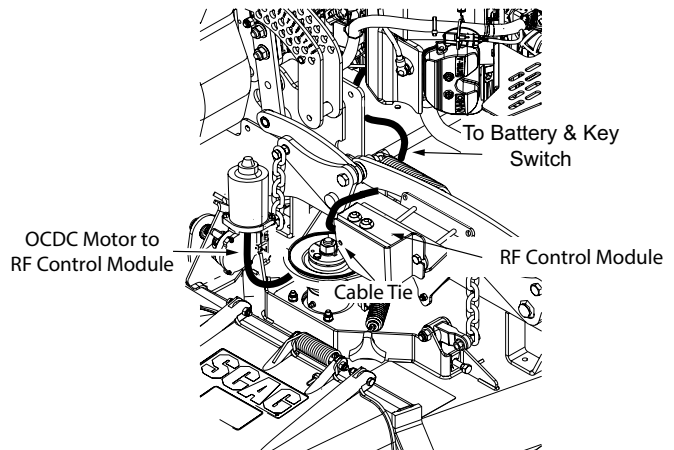

Figure 3-33. E-OCDC Wire Harness Installation
11. Install the RF switch mounting bracket to the control panel using the two (2) 1/4" - 20 x .75" tap tite screws included in the kit. See Figure 3-33.
13. Install the RF switch into the mounting bracket as shown in Figure 3-33. It may be necessary to add a light application of silicone to the outside of the switch to retain the switch in the bracket.